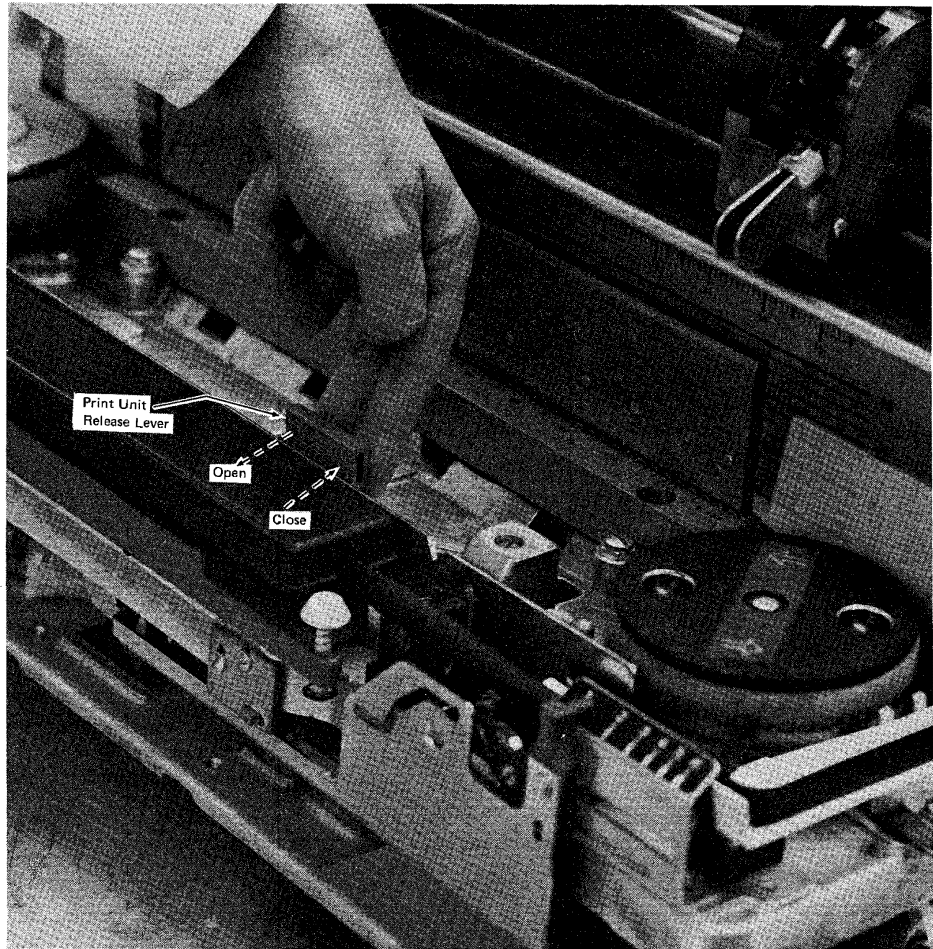

Figure 5-3. Print Unit Open/Close
- 2 Open the print unit as shown in Figure 5-3.
- 11 Close the print unit shown in Figure 5-3.
- 8 Close the print unit as shown in Figure 5-3.